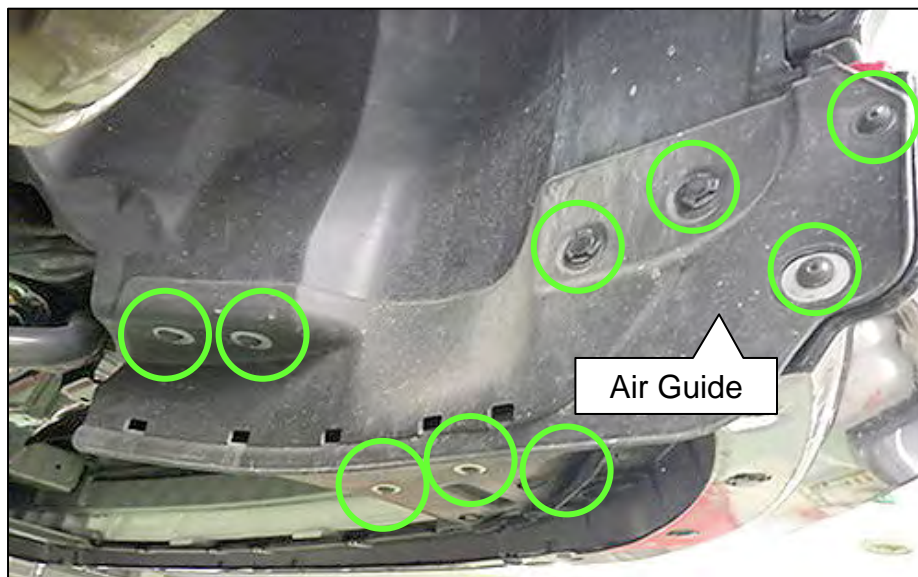

Figure 165
191. Install the passenger (RH) side Air Guide (Figure 165).
- Seven (7) screws and two (2) clips.